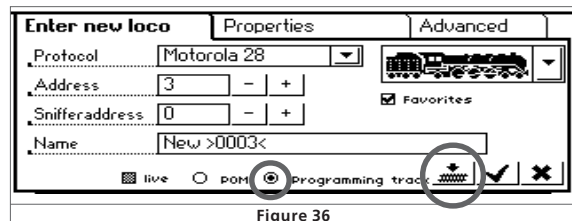

Figure 36
- Select the option "Programming on programming track" (Fig. 36).
- d) Sort by name (activated in Fig. 36)